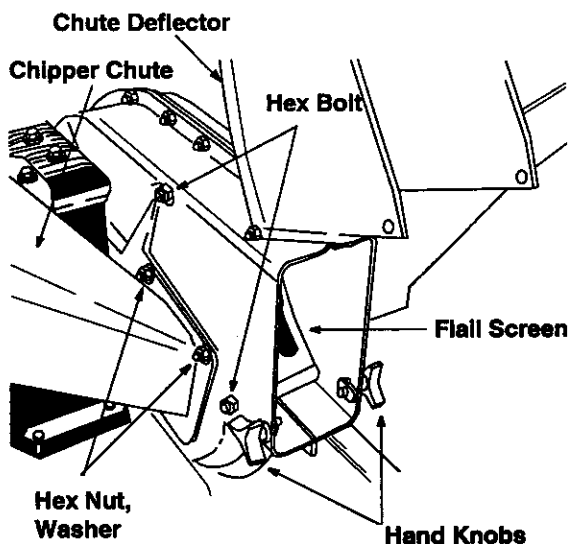

Figure 18
- Remove two hex bolts which extend through the housing. See Figure 18.
- Pull the flail screen from inside the housing. See Figure 18.